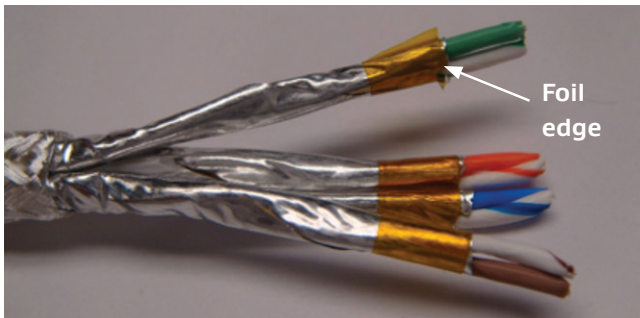

Figure 33: Tearing the foil
9. With cutters, cut the foil on each pair where it meets the tape (Figure 33). Tear the foil along the edge.